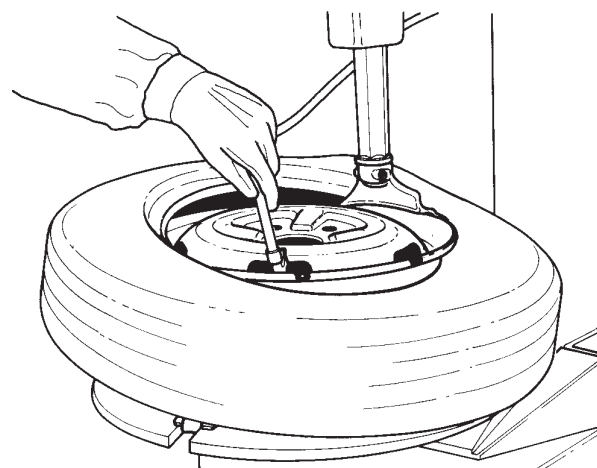

Fig. 5-3
D. Mount the first bead as described in section 4.2.B. Put the tube inside the tire and connect the inflation air line to the tube valve to hold the tube in place. (Fig. 5-3). Mount the top bead following the directions above.